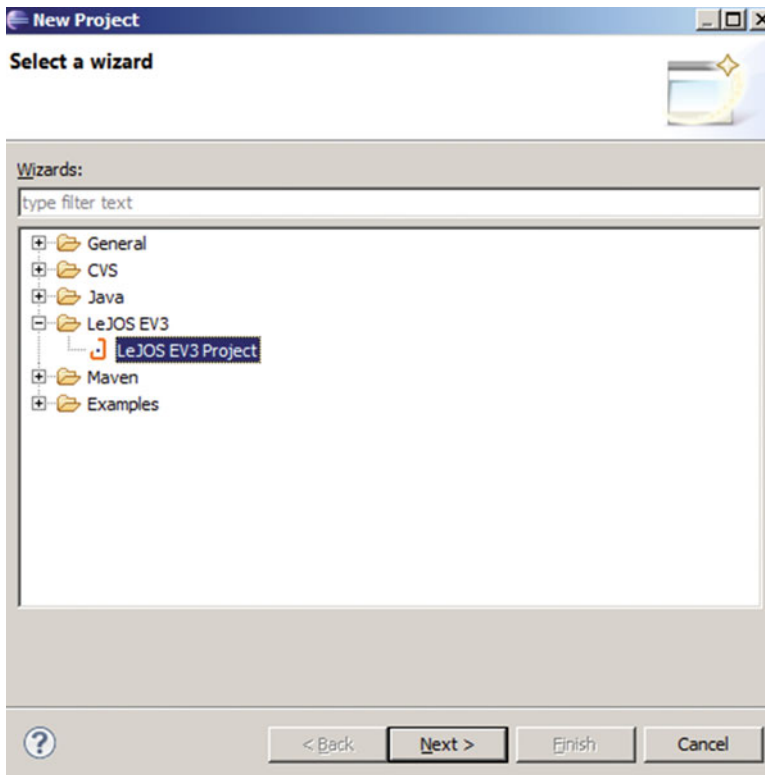

Figure 1-24. A New leJOS project
2. In the next window, double-click leJOS EV3 to expand the folder options. You want to create a leJOS EV3 project, so select leJOS EV3 project and click the *Next* button, as shown in Figure 1-24.